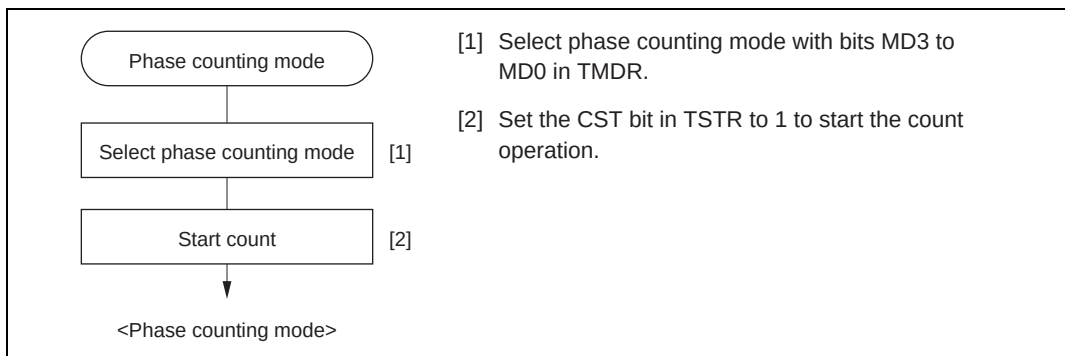

**Figure 9.28 Example of Phase Counting Mode Setting Procedure**
**Example of Phase Counting Mode Setting Procedure:** Figure 9.28 shows an example of the phase counting mode setting procedure.